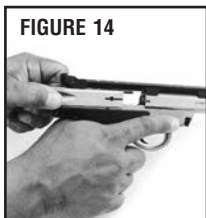

FIGURE 14
- With the muzzle still pointing in a safe direction, and with your finger off the trigger and outside the trigger guard, grasp the sides of the slide from the rear with your thumb and fingers, and briskly draw the slide fully rearward in order to extract any cartridge from the barrel chamber and clear it from the pistol. Do not obstruct the ejection port because doing so can interfere with ejection of a cartridge (FIGURE 14).